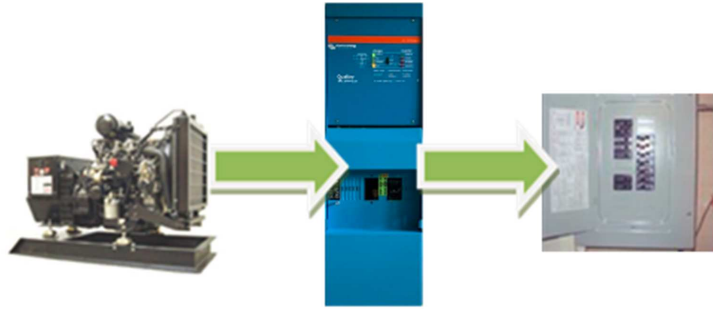

Figure 25 \* shows AC current flow in an off-grid system.
- Figure 25 shows AC current flow in an off-grid system.